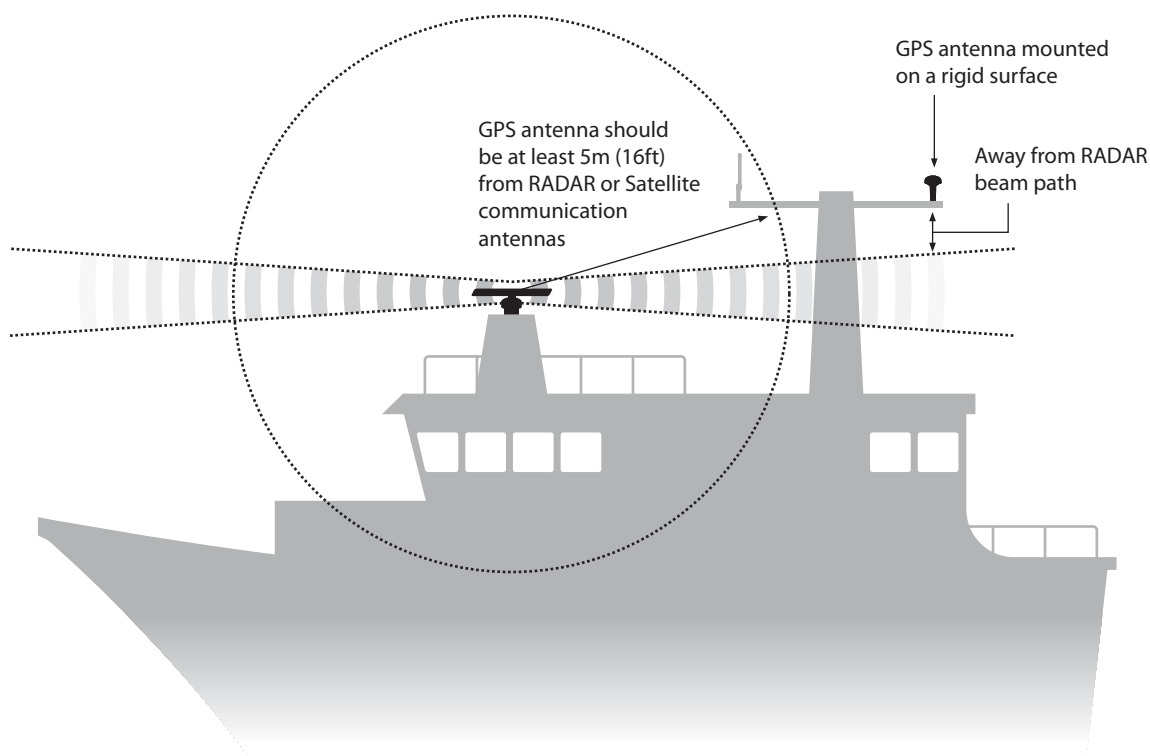

Figure 38 GPS antenna location
- The GPS antenna should be mounted as high as possible, however it is not recommend the antenna is mounted on a high mast where the motion of the vessel will cause the antenna to swing and potentially reduce the accuracy of the GPS position. See Figure 38 for guidance.